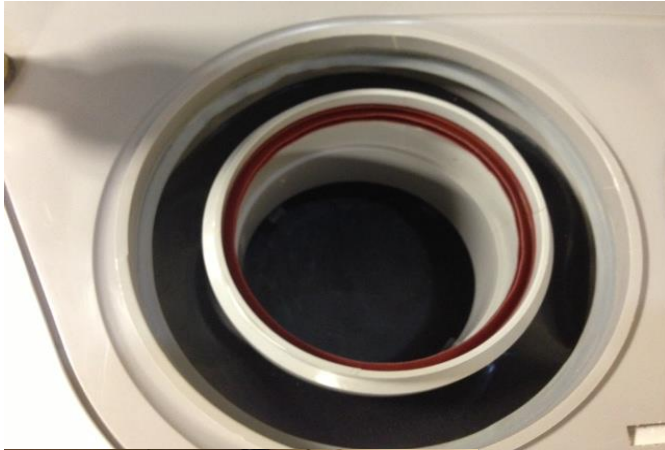

Figure 3
- 1) A black O-ring seal (see figure 1) on the concentric air intake portion must be used to block air intake (see figure 3). This black O ring is supplied with boiler. It is placed with the installation manuals in a plastic bag